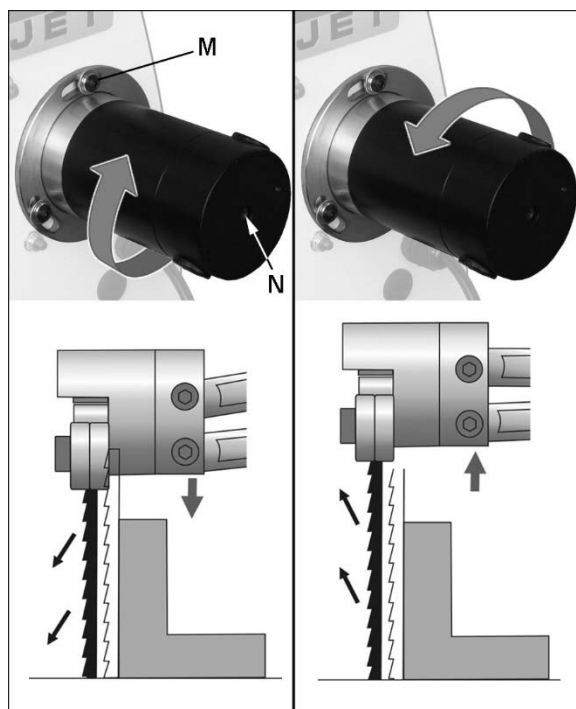

Figure 23: blade oscillation
- Loosen screws on motor flange (M, Figure 23) with 4mm hex wrench. *Only loosen screws enough to allow motor rotation.*
6. Slowly rotate entire motor by hand to adjust oscillation. Clockwise rotation will make blade movement more aggressive on downstroke. Counter-clockwise will make blade more aggressive on upstroke. See Figure 23.
7. When desired oscillation is achieved, securely tighten motor mount screws (M).